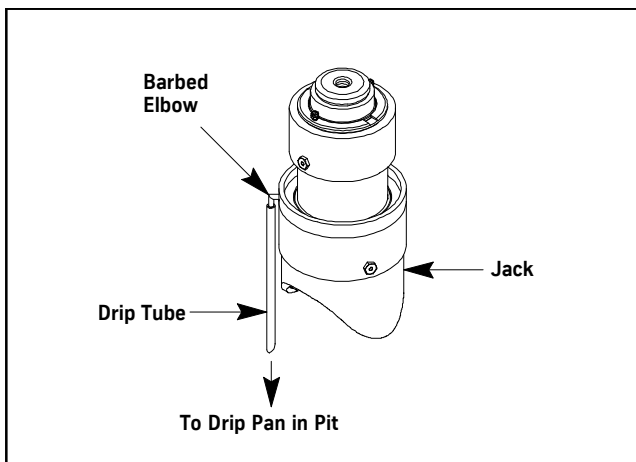

Figure 20 - Drip Tube Installation (Two Stage Shown)
1. Install the drip tube down from the barbed elbow on the packing head to a drip pan in the pit. See Figure 20.